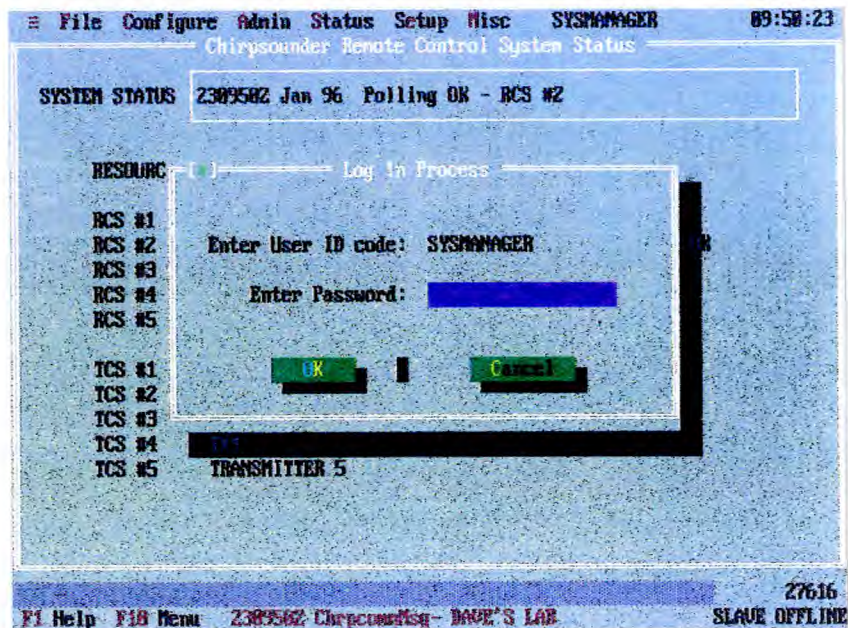

Fig 4
- 3 Type in your User ID code (in capitals) and select OK. The "Log In Process" display is shown in figure 4.